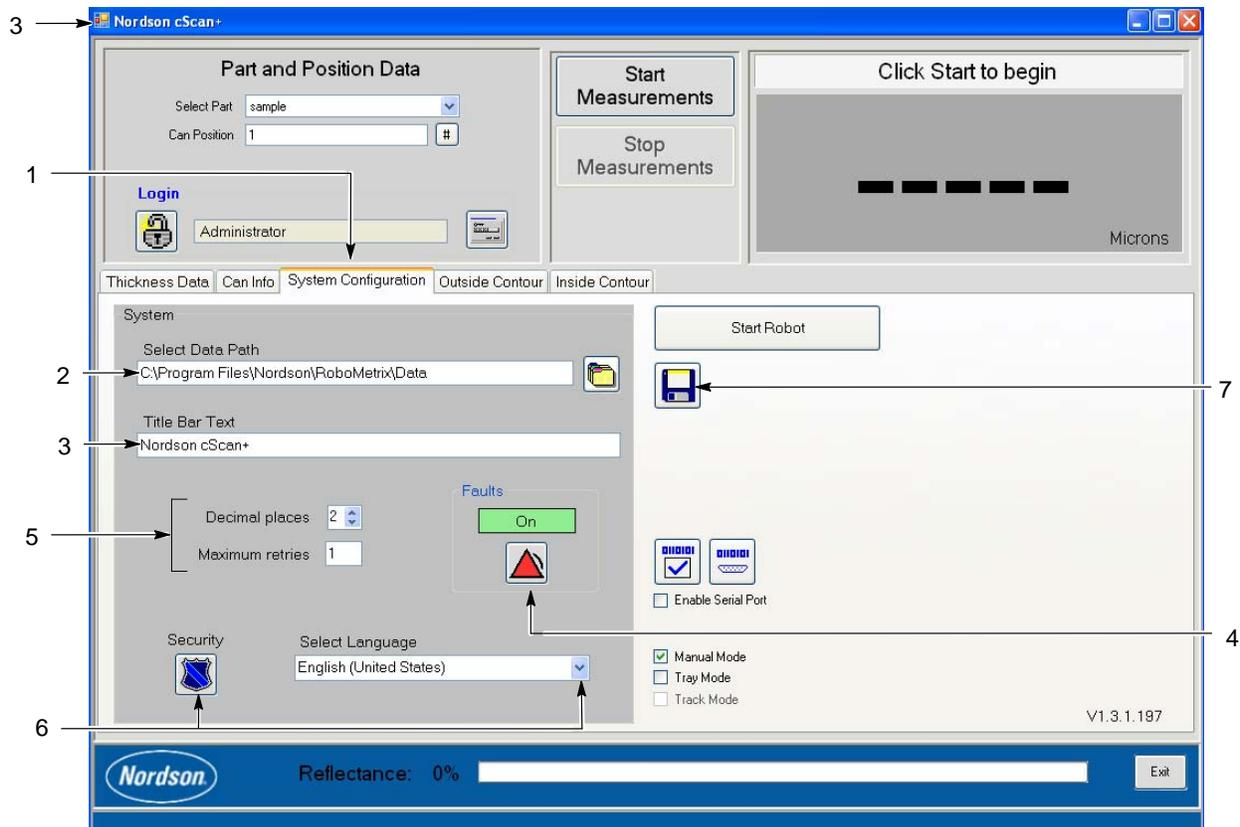

Figure 12 System Configuration Screen
9. IMPORTANT. Wait for the green robot ready light (See Figure 11) located inside the cScan+ unit to come on. Once it lights green, click on the *Start Robot* button. See Figure 12.
See Figure 12.